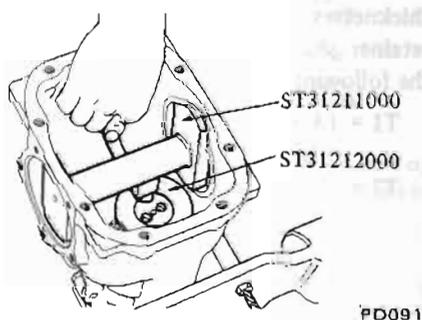

Fig. PD-18 Measuring the clearance
2. Measure the clearance (N) between the tip end of height gauge and the end surface of dummy shaft, using a thickness gauge. See Figure PD-18.